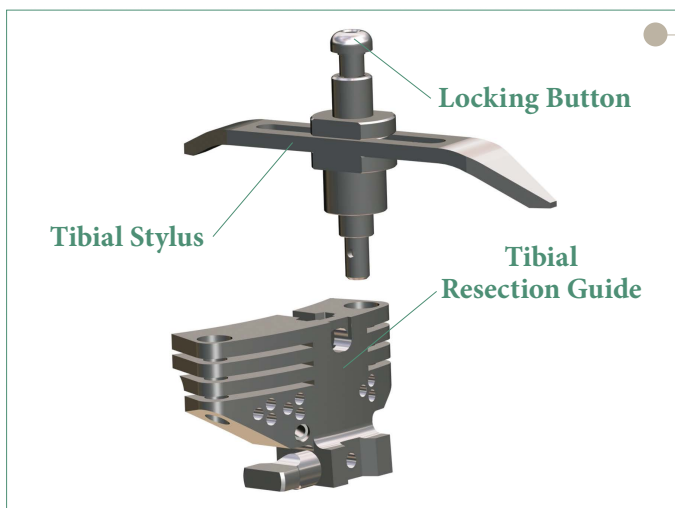

Figure 13
- Alternatively, a tibial stylus can be utilized to set the tibial resection level. Assemble the Tibial Stylus to the Tibial Resection Guide by depressing the locking button on the top of the Tibial Stylus, inserting the stylus into either the medial or lateral holes on the top of the Tibial Resection Guide and releasing the button to lock the Stylus into place (**Figure 13**).